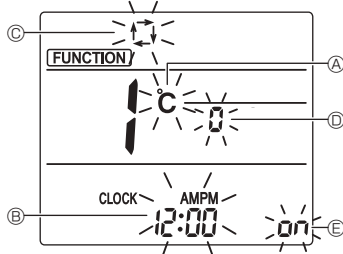

Fig. 6-6
- Check that function No. "1" is displayed, and then press the **SET** button ③.
- The Screen display setting screen will be displayed. (Fig. 6-6)
- Press the **UP/DOWN** button ④ to change the function No.
### 6.9.2. Changing the temperature unit (Fig. 6-6 Ⓐ)
### 6.9.3. Changing the time display (Fig. 6-6 Ⓑ)
### 6.9.4. Changing the AUTO mode (Fig. 6-6 Ⓒ)
### 6.9.5. Changing the pair No. (Fig. 6-6 Ⓓ)